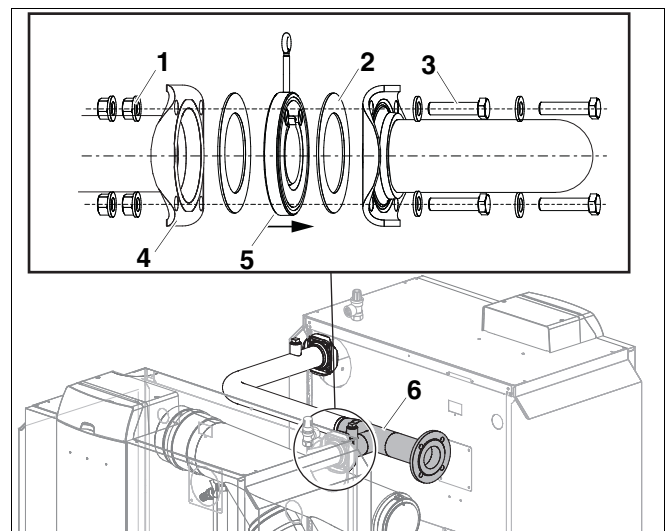

Fig. 6 Fitting flow piece onto the second boiler
- The check valve (Fig. 6, [5]) remains fitted to the flow according to the flow direction.
- Place gasket (Fig. 6, [2]) on the check valve.
- Secure flow piece flange (Fig. 6, [6]) to flow flange (Fig. 6, [4]) on the second boiler using four bolts (Fig. 6, [3]) and nuts (Fig. 6, [1]).